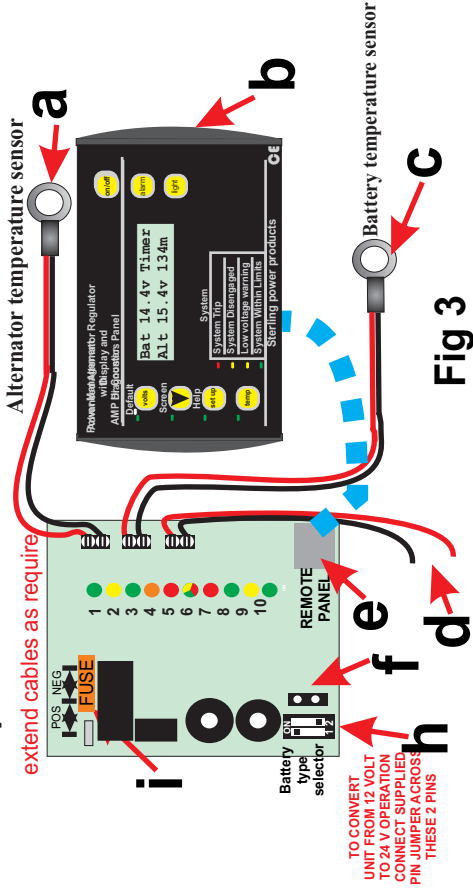

Fig 3
UNIVERSAL DIGITAL ADVANCED REGULATOR FITTING INSTRUCTIONS. This new unit is suitable for 12 and 24 volt operation, obviously to set this unit up as 24 volt on a 12 volt system, would be catastrophic and all effort is made to ensure this does not happen. The unit comes preset to 12 volt operation as standard, a small electrical bridge must be made in order for the 24V function to be operated. (see fig 3 code f, for the bridge position)This bridge is not supplied in the regulator box but is Sellotaped to the centre of these instructions ensuring that it cannot accidentally be installed. For 24V installation please fit the bridge as shown on the diagram **now !!**.
2) Remove the Regulator lid, inside you will see the circuit board with a 2 pin dip switch and a large fuse: See **fig 3** , **i** = large fuse and **h** = dip switch
Temperature sensing: see fig 3 a= alt temp sensor, c = bat temp sensor